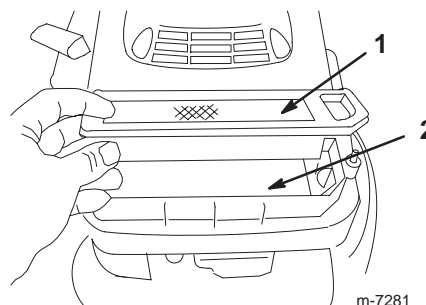

Figure 21
5. Remove the paper air filter and discard it (Fig. 21).